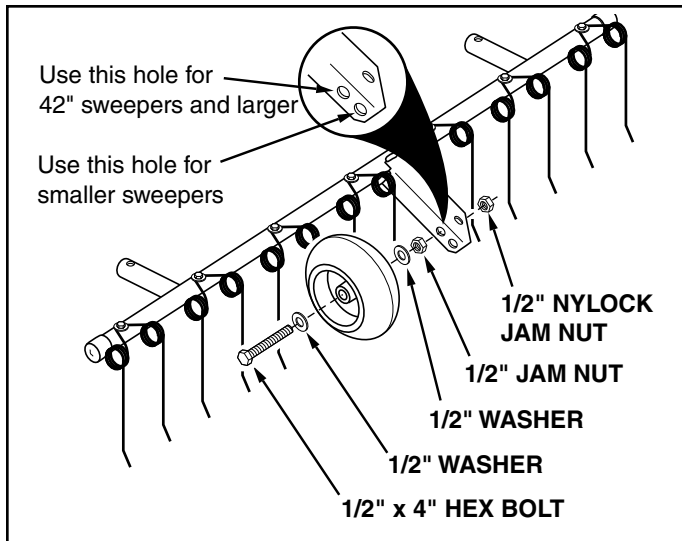

FIGURE 2
- Assemble a 1/2" washer, the wheel, another 1/2" washer and a 1/2" plain jam nut onto the 1/2" x 4" hex bolt. See figure 2.
- Insert the bolt through the welded bracket and assemble a 1/2" nylock jam nut onto the bolt. Adjust nuts so that there is no end play in the wheel and then tighten securely against the welded bracket. Make sure the wheel still turns freely. See figure 2.
- The operating height of the dethatcher is controlled by the gauge wheel at the front of the dethatcher and is not adjustable. The correct wheel position was determined in figure 2 when you assembled the wheel.